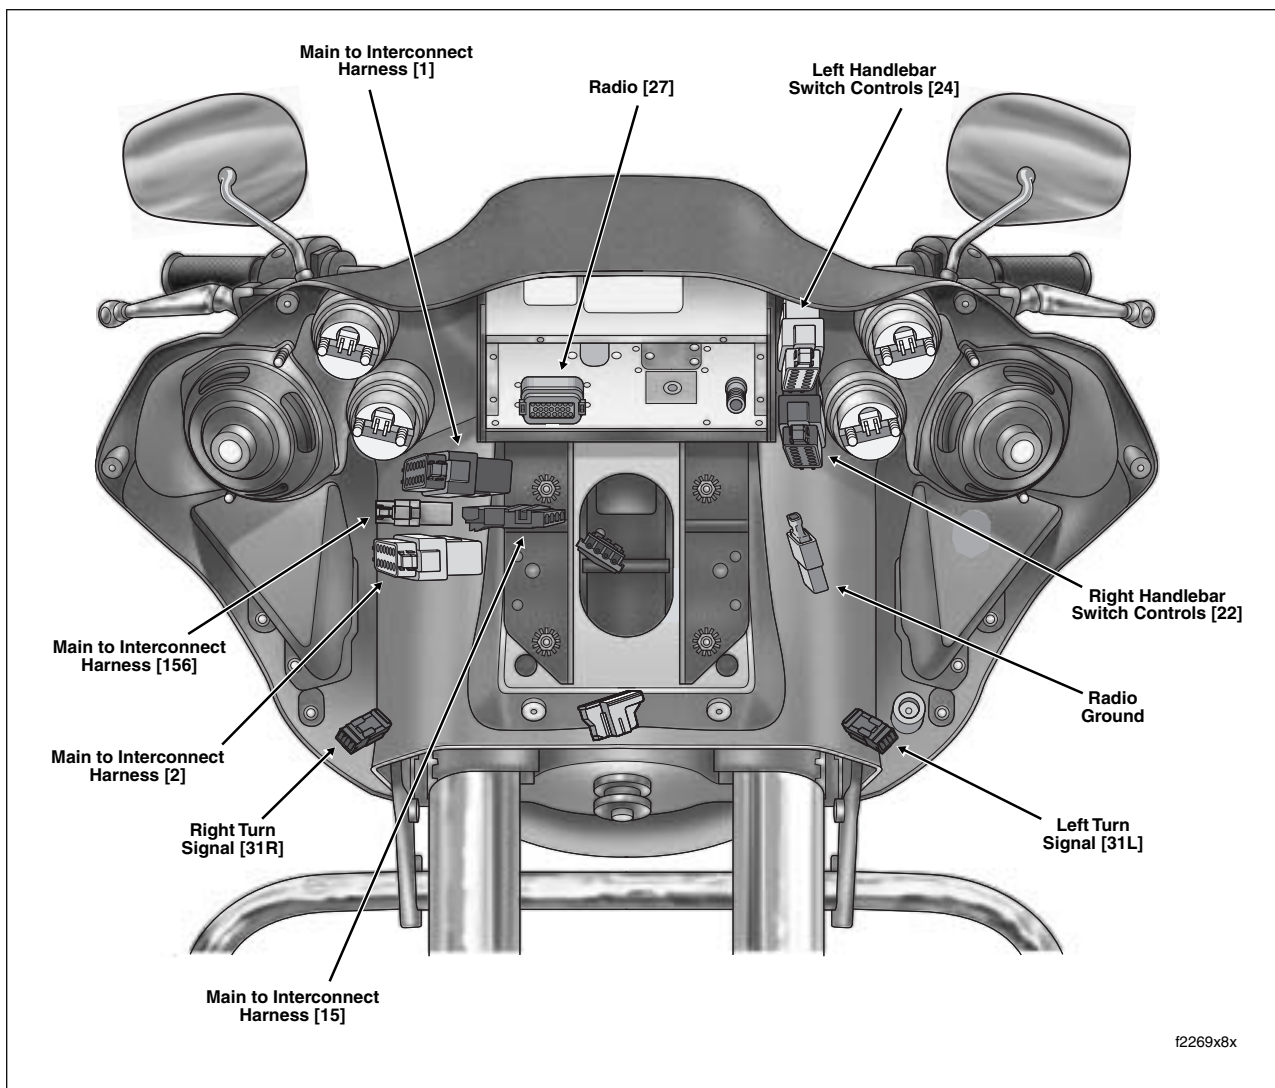
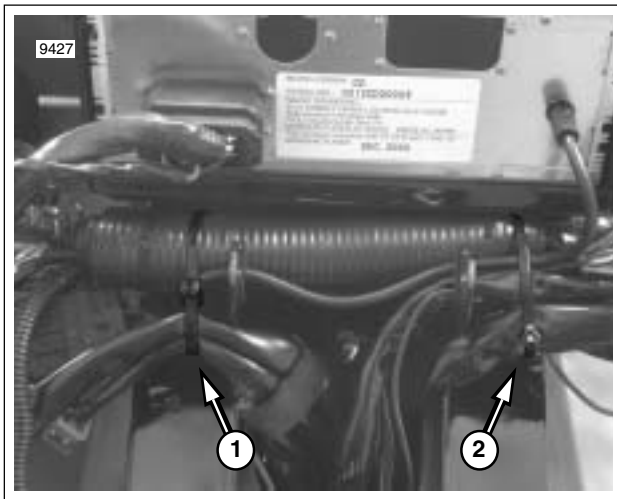

Figure 8-163. Inner Fairing Connections (FLTR)
Figure 8-165. Cable Strap Convolved Tubing and Conduit
4. Carefully cut two cable straps and allow wire bundles and conduit to hang naturally. See Figure 8-165.
5. See Figure 8-163. Disconnect main harness from interconnect harness as follows:
6. See Figure 8-163. Disconnect handlebar switch controls from interconnect harness. Disconnect radio and radio ground. Proceed as follows:
1. Center convoluted tubing of interconnect harness above and inboard of hooks on radio bracket. See Figure 8-165. To verify proper orientation, be sure that long length
5. See Figure 8-163. Connect handlebar switch controls to interconnect harness. Connect radio and radio ground. Proceed as follows:
6. See Figure 8-163. Connect main harness to interconnect harness as follows:
7. Orient connectors as shown in Figure 8-163. Install two **new** cable straps outboard of fairing bracket hooks to hold wire bundles together. Cut any excess cable strap material. See Figure 8-165.